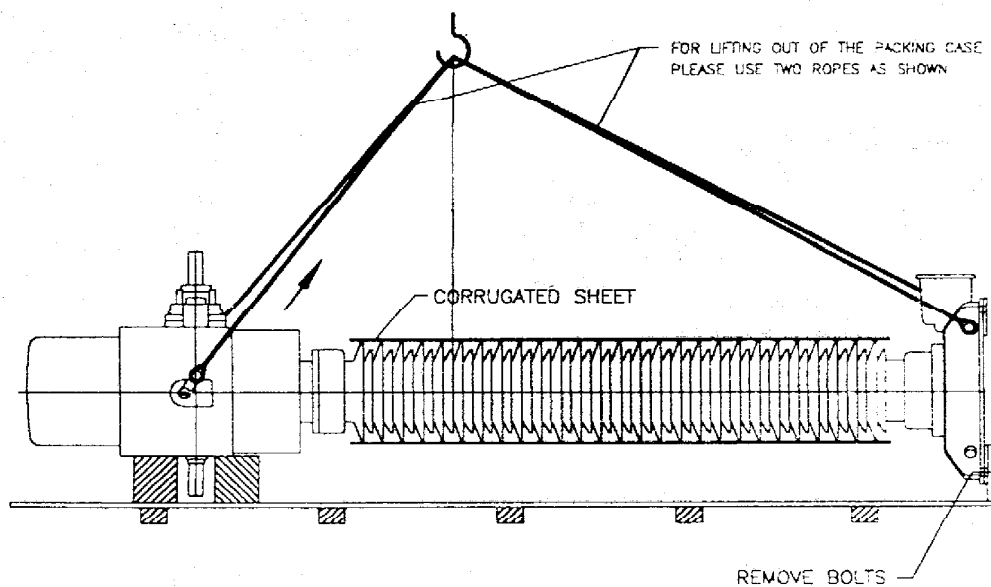

FIG. 7
- For lifting the CT from packing case and keeping it on platform use two ropes as shown in the fig. 7 & 8